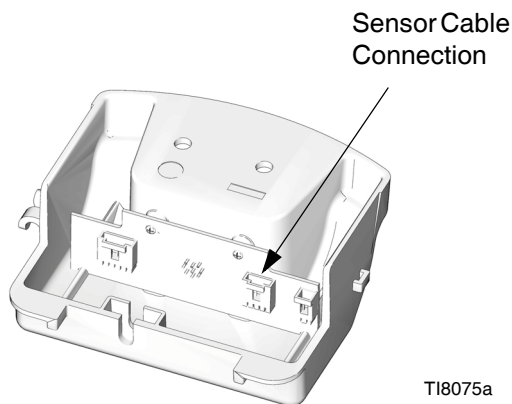

FIG. 15. Sensor Cable Connection
- a. **DataTrak Models:** Remove the two screws (135). Carefully remove the DataTrak module (131), see page 14. Disconnect the runaway solenoid and sensor cables from the module board. Remove the two screws (134) and carefully slide the housing (132) off the air valve.
- b. **Linear Sensor Models:** Remove the screws (134) and carefully slide the housing (132) off the air valve. Disconnect the sensor cable from the circuit board. See FIG. 15 on page 28.
10. Reinstall the muffler (15). Fully tighten the screws (43) against the muffler.
11. Reinstall the outer valve cover (47).
- a. **DataTrak Models:** Carefully slide the housing (132) onto the air valve. Thread the screws (134) in by hand, then torque to 100 in-lb (11.3 N•m). Reattach the solenoid and sensor cables to the DataTrak module (131), see page 14. Carefully slide the module back into the housing (132). Reinstall the two screws (135).
- b. **Linear Sensor Models:** Reconnect the sensor cable to the circuit board. See FIG. 15, page 28. Carefully slide the housing (132) onto the air valve. Thread the screws (134) in by hand, then torque to 100 in-lb (11.3 N•m).
13. Reinstall the top cover (30).
5. Remove the screws (134) and carefully slide the housing (132) off the air valve. Disconnect the sensor cable from the circuit board. See FIG. 15.
6. Thread the cable back through the hole (H) in the side of the adapter (33) and extend it out the top of the adapter.
7. Unscrew the adapter (33) and sensor (35). Lift the sensor straight up out of the air motor.
8. Apply thread adhesive to the new sensor housing. Screw the sensor (35) into the top cap (1). Torque to 30-36 ft-lb (40.6-48.8 N•m).
9. Apply thread adhesive to the adapter (33). Extend the sensor cable straight up out the top of the adapter, then screw the adapter into the top cap (1). Torque to 30-36 ft-lb (40.6-48.8 N•m).
10. Thread the sensor cable through the hole (H) in the side of the adapter, and reconnect it to the circuit board. See FIG. 15, page 28. Carefully slide the housing (132) onto the air valve. Thread the screws (134) in by hand, then torque to 100 in-lb (11.3 N•m).
11. Apply thread adhesive to the lift ring (21). Hold the adapter (33) with a wrench to keep it from turning, and torque the lift ring to 30-36 ft-lb (40.6-48.8 N•m).
12. Reinstall the top cover (30).